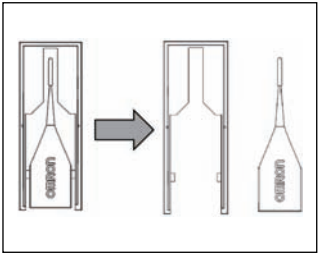

fig.1
- (1) Snap off the coding key from the rectangular protection holder. (fig. 1)